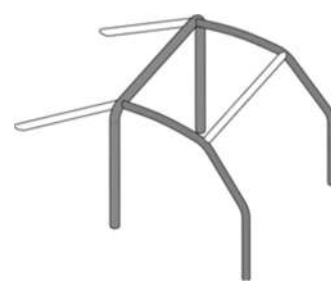

Fig. 7C
- 1 main arch, the 2nd lateral semi-arches, 1 cross-section element, the 2nd rear props (fig. 7C).